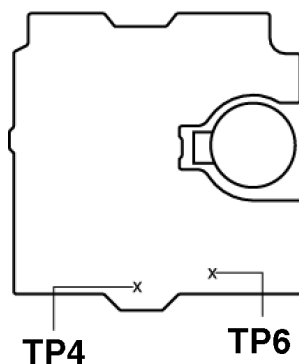
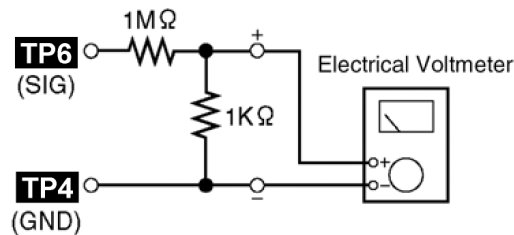

Fig. 9
Fig. 12
1. Connect a frequency indicator. (Fig. 12)
1. Connect an electrical voltmeter. (Fig. 9) (Fig. 12)